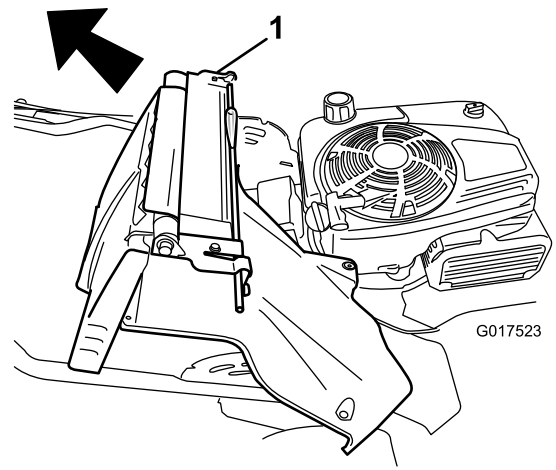

Figure 33
7. Remove the rear door and handle-lock lever assembly (Figure 33).